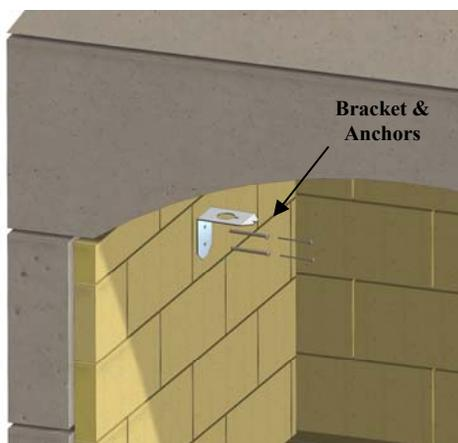

Figure 27. Install Bracket & Anchors
C. Install bracket towards the front of the firebox wall, about 20 inches above the firebox floor. The bracket will capture the damper operating cable. Use a ¼" masonry bit to avoid cracks in the firebrick. See Figure 27.